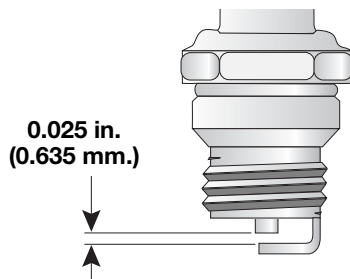

Fig. 39
3. Replace cracked, fouled or dirty spark plug. Set the air gap at **0.025 in. (0.635 mm)** using a feeler gauge (Fig. 39).